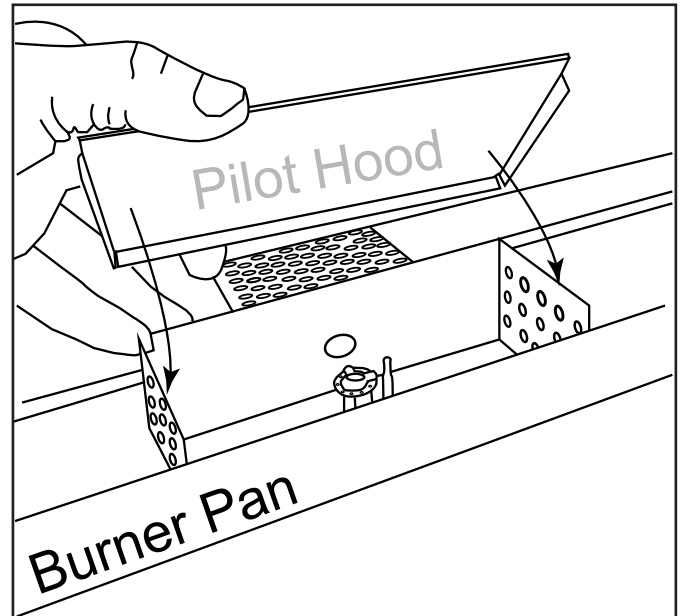

**Fig. 30** Installing ignition screen.
**Step 21:** Install ignition screen (from parts box) overtop of the burner tube with the cutout area centered behind the pilot box ignition hole as shown in Fig. 30. The ignition screen sit on top of the burner tube.